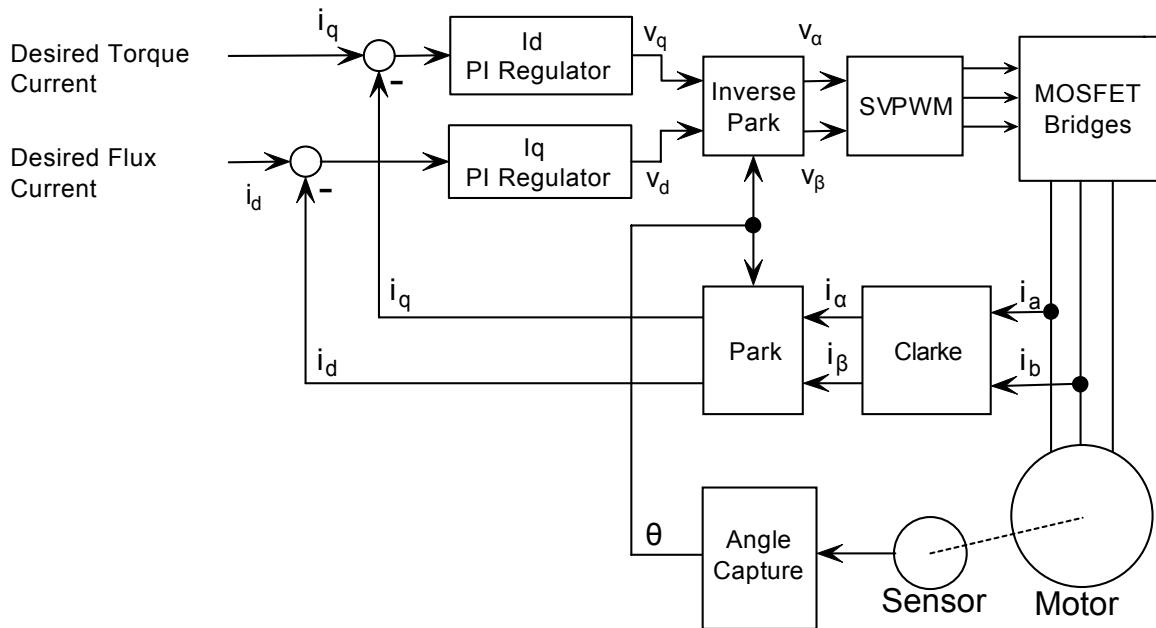

Figure 8-11. FOC operation
Field Oriented Control is available on selected models of Roboteq motor controllers. It is uses a classical implementation as described in the figure 8-11. The current in the motor phase is captured, along with the rotor's angle. From this are computed the useful i_q and wasteful i_d . Two Proportional-Integral (PI) regulators then work to control the power output so that the desired Torque (i_q) and Flux (i_d) currents are met. The desired Flux current is typically set to 0, and so the regulator will work to totally eliminate the Flux current.